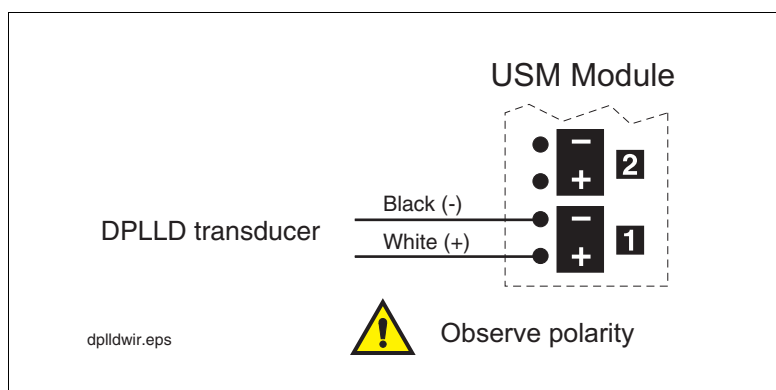

Figure 16. DPLLD transducer wiring to USM Module
2. Connect the two color-coded or marked wires from each DPLLD transducer to the USM module. (see Figure 16). Maintain correct polarity between the color-coded or marked field wires and the connector terminals during wiring.